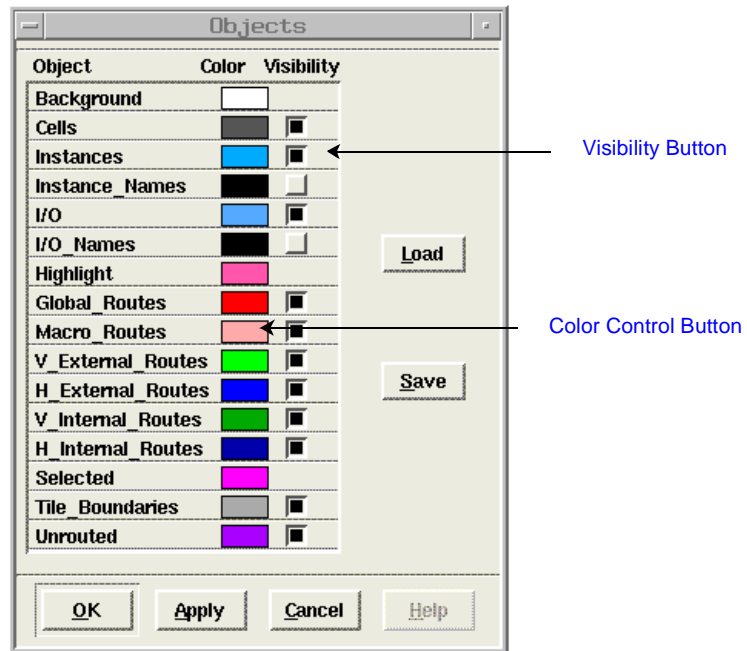

Figure 3-11. The Objects Window
The design layout in the Viewer window can be customized to assign new colors to objects and to control which objects are displayed using the Objects window. ASICmaster maintains the Viewer's default object setup in the .amrc file, which the Viewer searches for at startup. This section contains information about customizing the Viewer setup. The Objects window is shown in Figure 3-11 on page 56.
- 1. Choose the Objects command from the Options menu in the Viewer window.** The Objects window is displayed, as shown in Figure 3-11 on page 56.